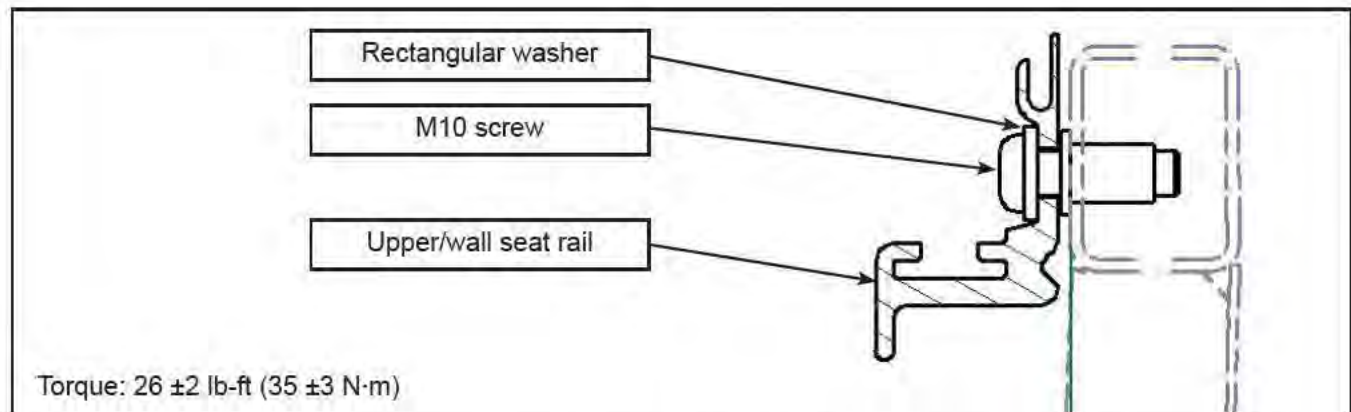

Figure 7 - Upper/Wall Seat Rail
- From the rear to the front, make a first tightening to the torque value shown in Figure 7.